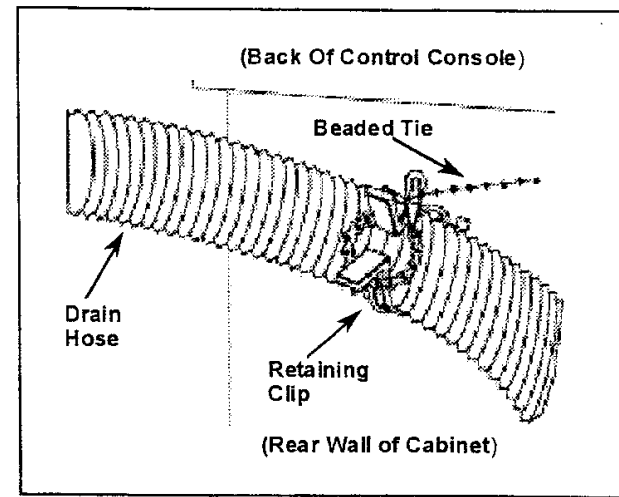

Figure 1-4
7. Pull the drain hose up vertically and snap the hose into the retaining clip positioned on the upper rear cabinet wall. (Figure 1-4)